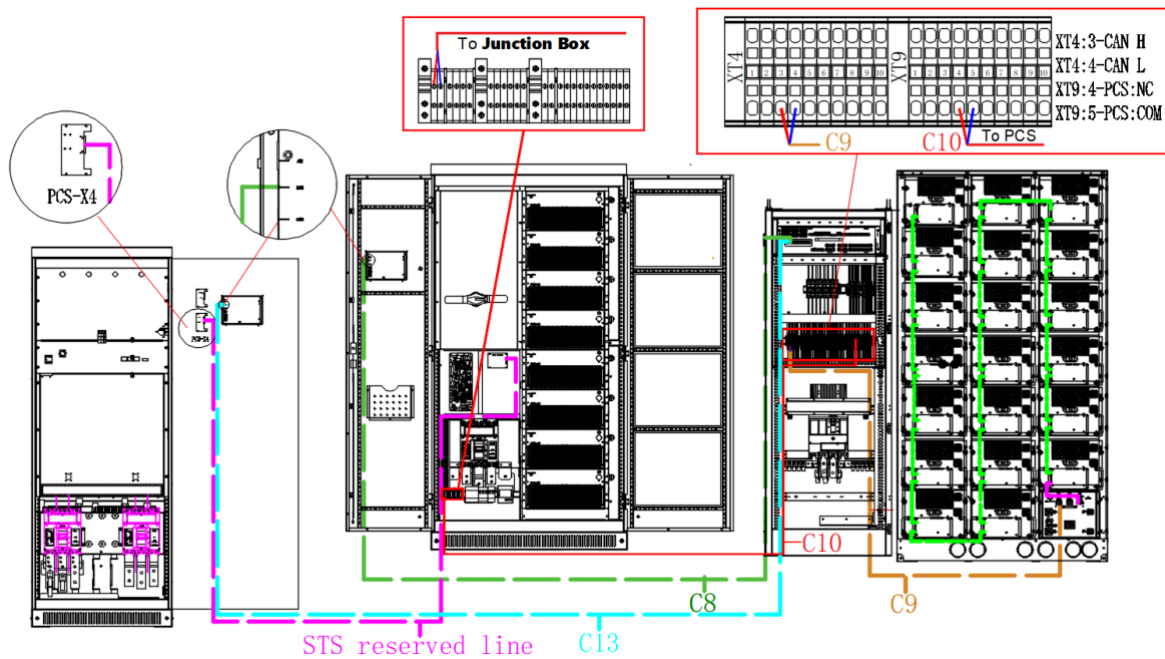

Figure 3-19 DC side communication line connection
1. After opening the door of the combiner cabinet, you can see the wiring terminal block of the DC Junction Box. Connect the high voltage box (BMU port) and the terminal block of the DC Junction Box (XT4:3 (CAN H)/XT4:4 (CAN L)) using the wire harness C9 in the accessory package. Please refer to Figure 3-19.
2. After opening the PCS cabinet door, connect the communication between PCS and the DC Junction Box. Use the wiring harness C8 in the accessory package to connect the PCS screen LAN port and TOP BMU LAN port (at the switch), please refer to Figure 3-19.
3. Connect the PCS to the dry contact wire harness of the DC Junction Box. Use the twisted pair shielded wire C10 in the wire harness package to connect the PCS terminal (P1:1/P1:2) and the combiner cabinet terminal block (XT9:4 (NC)/XT9:5 (COM)). Please refer to Figure 3-19.
4. After opening the door of the STS (PWD-800K) cabinet, connect the communication between the STS (PWD-800K) and the DC Junction Box. Use wire harness C13 in the accessory package to connect the STS (PWD-800K) screen LAN port and the TOP BMU LAN port (at the switch). Please refer to Figure 3-19.
5. Connect STS (PWD-800K) to PCS communication, connect STS (PWD-800K) (PCS-X4) to the X4 motherboard of PCS, remove the PCS cover to see the X4 motherboard of PCS, and then connect it. The network cable for connection has been reserved in the STS (PWD-800K) cabinet, please refer to Figure 3-19.